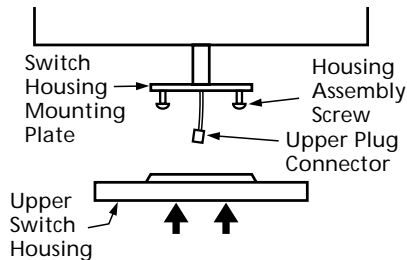

Figure 10a - Attaching Upper Switch Housing to Switch Housing Mounting Plate
1. Partially install two #6-32 x 3/8" housing assembly screws into the switch housing mounting plate as shown in Figure 10a.
2. Feed the upper plug connector through the center opening of the upper switch housing. See Figure 10a.